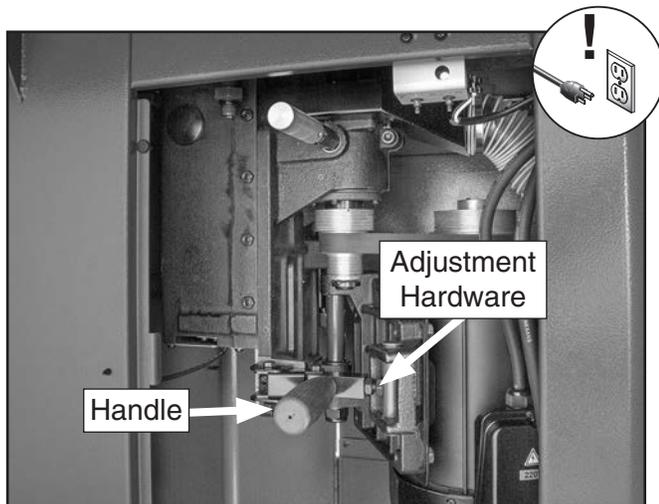

Figure 65. Handle for motor tension.
2. Open cabinet access door, then release belt tension by pulling motor bracket handle (see **Figure 65**).
5. If there is not $\frac{1}{4}$ " of deflection, adjust belt tension by loosening/tightening adjustment hardware on motor bracket handle until proper tension achieved, see **Figure 65**.